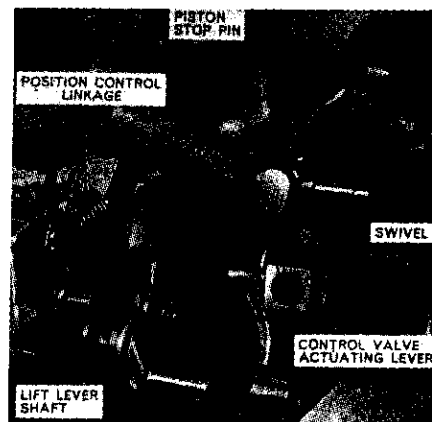
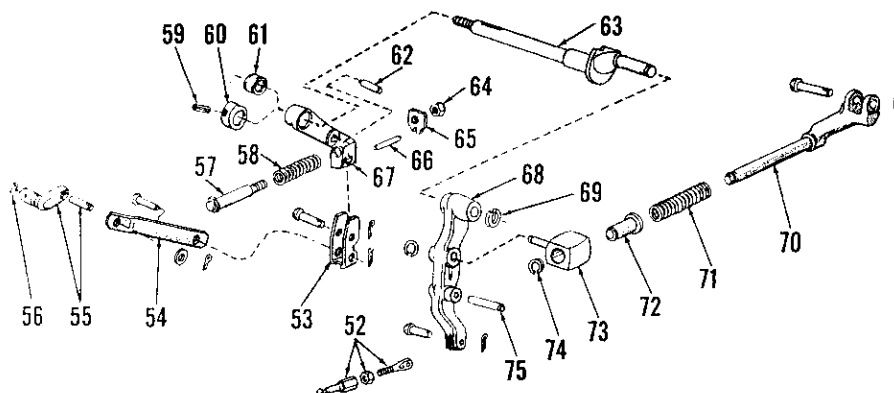

Fig. 407—Removing actuating arm assembly from lift control lever shaft.
Fig. 406—Exploded view of hydraulic system control linkage. Spacer (61) is used on model 2000; cam (60) is used on models 3000 and 4000.
Remove the snap ring (69—Fig. 406) and remove the actuating lever (68) and swivel assembly as shown in Fig. 407. Unbolt and remove the quadrant (retainer) (16—Fig. 401) from support (17) (early retaining), then remove the control lever retaining nut (11), spring washer (12), flat washer (13), lever (14), Woodruff key (18) (early models) and the friction disc (15). Unbolt the control lever shaft support (17) from
lift cover and slide the support from shaft. Remove the cotter pin and flat washer that retain link (54—Fig. 406) to selector lever shaft (55), then remove the control lever shaft and position control linkage as shown in Fig. 409.
On models 3000 and 4000, drive the roll pin (59—Fig. 406) from cam (60) and control lever shaft, then remove the cam and position control lever (67) from shaft. On model 2000, remove the spacer (61) and position control lever from shaft. Drive the roll pin (21—Fig. 401) from selector lever (22), remove lever from shaft (55—Fig. 406), then remove shaft and "O" ring (56) from lift cover.
Need and procedure for further disassembly will be evident on inspection of removed parts and with reference shown in exploded view in Fig. 406. To reassemble and reinstall, reverse the removal and disassembly procedure. Tighten control lever shaft support retaining cap screws to a torque of 35-47 Ft.-Lbs. Be sure that control lever is a free sliding fit over shaft and Woodruff key on early models, then install flat washer, spring washer and retaining nut; on model 2000, tighten retaining nut so that a force of 4 to 5 pounds is required to move control lever and on models 3000 and 4000, tighten nut so that 8 to 10 pounds force is required. Tighten lift arm to lift shaft retaining cap screws equally and so that all end play is removed, but